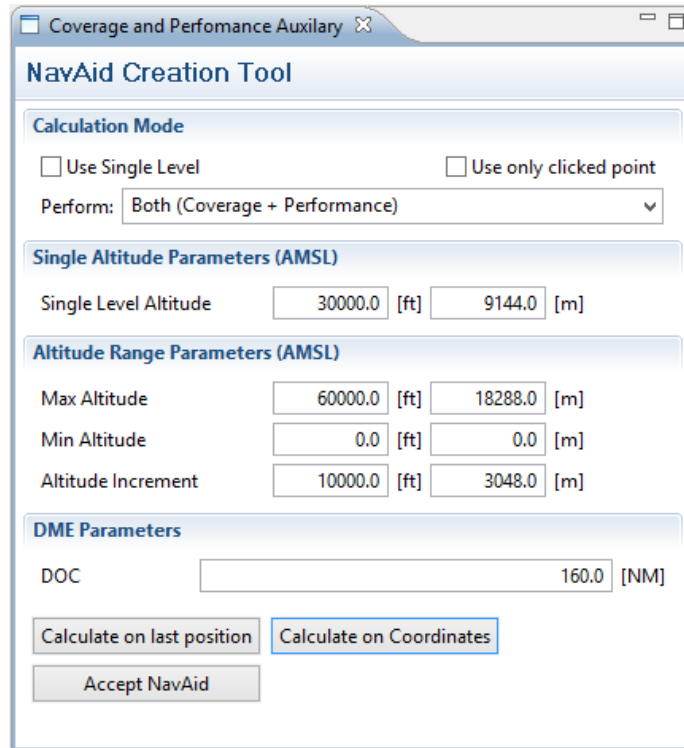

Figure 73: NavAid Creation Tool
4. In the view presented on Figure 73, configure the appropriate calculation and NavAid parameters, such as: